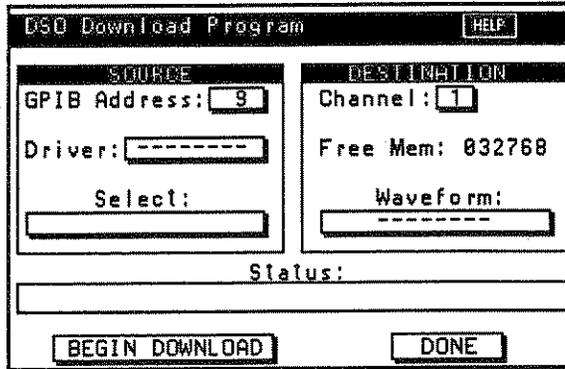

Figure F-3. DSO Upload Program
5. Once the DSO Upload Program screen appears (figure F-3) set up the Source (DSO) and Destination (Model 295). Also use this screen to upload a DSO waveform.